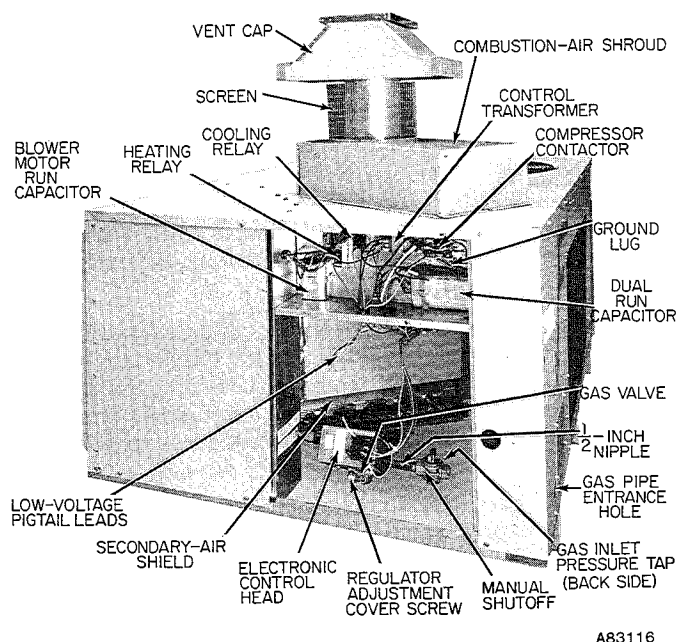
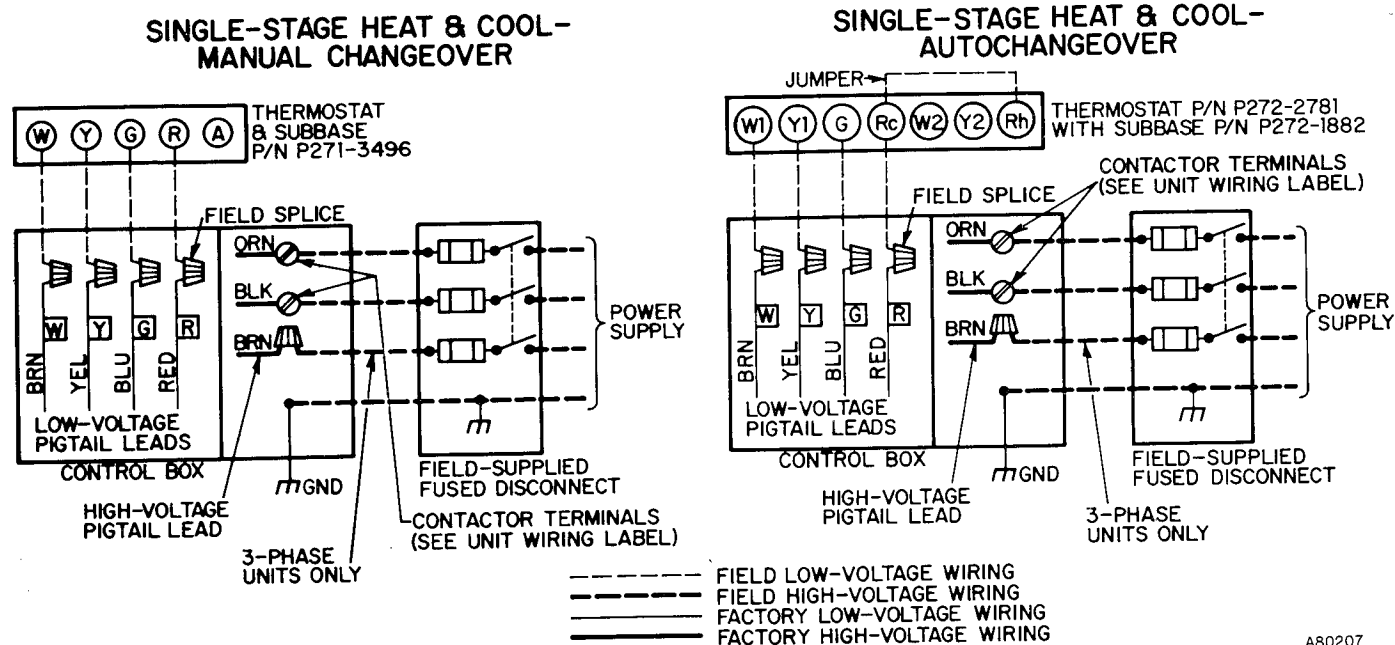

Figure 9—
Figure 10—High- & Low-Voltage Connections
A manual shutoff is shipped loose in the burner compartment or blower compartment. Connect one end of a field-supplied 1/2-inch straight nipple to the gas valve inlet. Connect the other end of the nipple to the manual shutoff as shown in Figure 9.
The gas supply pipe enters the unit through the access hole provided. See Figure 2 or 3 for location. The gas connection to the unit is made to the 1/2-inch FPT gas inlet on the manual shutoff. See Figure 9 for inlet location.
2. Run high-voltage leads into unit control box and connect to contactor. See unit wiring label, and Figures 9 and 10.
NOTE: On 3-phase units, connect the third high-voltage lead to the brown high-voltage pigtail lead. See unit wiring label and Figure 10.
For operation on 208 volts, disconnect the orange transformer-primary lead from the contactor. See the unit wiring label and Figure 9. Remove the tape and cover from the terminal on the end of the red transformer-primary lead. Save the cover. Connect the red lead to the contactor terminal from which the orange lead was disconnected.
A grommited, low-voltage inlet hole is located in the panel adjacent to the control access panel. See Figure 2 or 3. Run the low-voltage leads from the thermostat, thru the inlet hole, and to the low-voltage flagged pigtail leads that run through a hole in the bottom of the unit control box. See Figure 9. Connect the thermostat leads to the pigtail leads as shown in Figure 10.